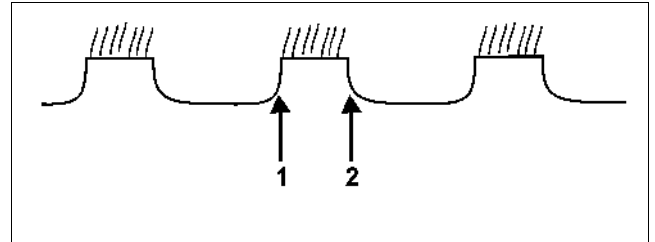

Fig. 21
- Adjust the 1st disc row to the right hand side and check again (Fig. 21):